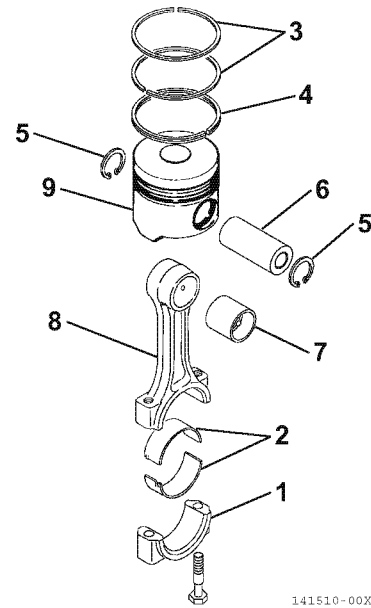

Figure 6-63
5. Remove the bearing inserts (2, **Figure 6-63**).
6. Remove the compression rings (3, **Figure 6-63**) from the piston using a piston ring expander.
7. Remove the oil ring (4, **Figure 6-63**) from the piston using a piston ring expander.
8. Remove the circlips (5, **Figure 6-63**) from the wrist pin.
9. Remove the wrist pin (6, **Figure 6-63**) and connecting rod (8, **Figure 6-63**) from the piston (9, **Figure 6-63**).